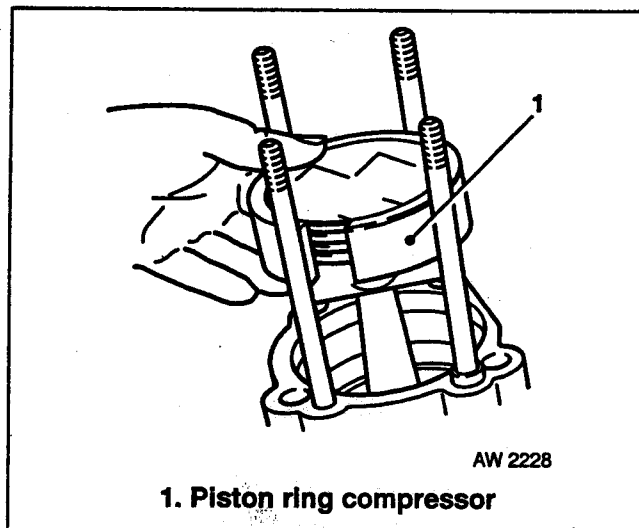

Fig 2.17 Use of Piston Ring Compressor
- f. At cylinder installation replace base gasket, lightly oil cylinder walls, and install piston into cylinder using piston ring compressor. Fig 2.17 refers.